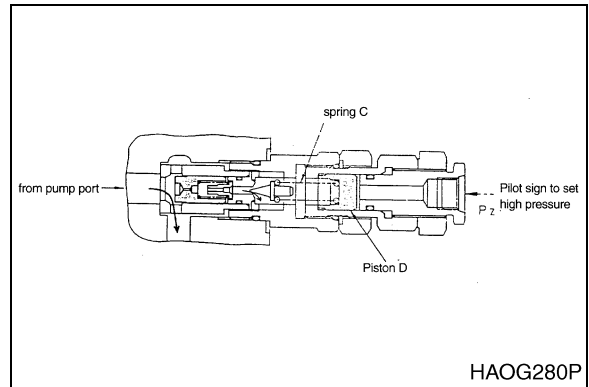

Figure 6
When piston (D, Figure 6) is in the left most position and the pressure has increased above the set pressure of spring (C), high pressure condition is achieved.